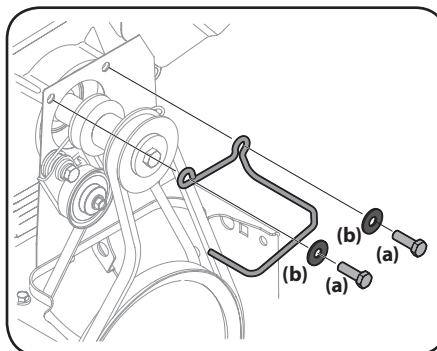

Figure 4-16
3. If your unit is equipped with a wire belt guide, washers (b) and hex bolts (a) as shown in Figure 4-16 loosen and remove them.